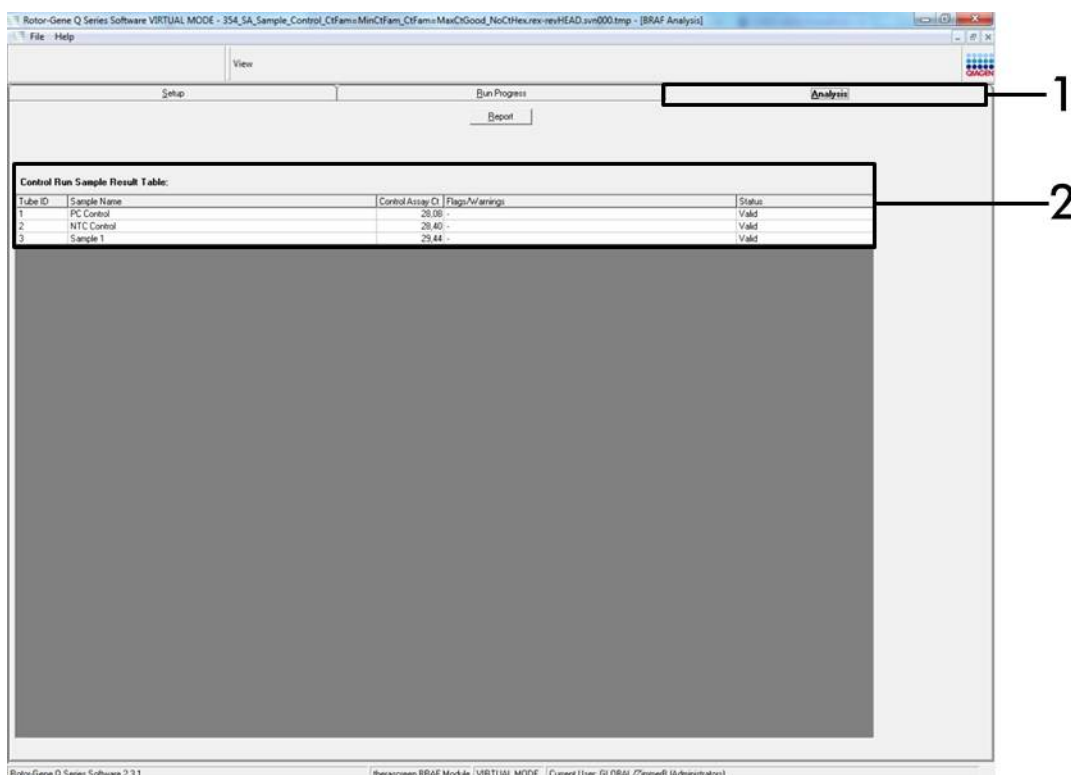

Figure 9. The “Analysis” tab and reporting of results. (1 = “Analysis” tab, 2 = “Sample Result Table”).
Note: If the “Analysis” tab fails to open, click the “Analysis” tab (Figure 9).
17. Control results will be reported as follows in the “Sample QC Result Table” (Figure 9).